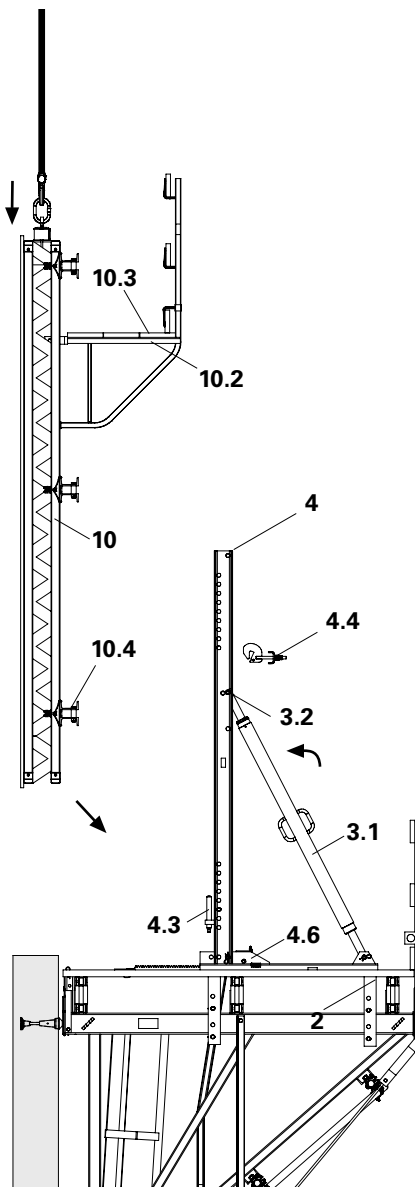
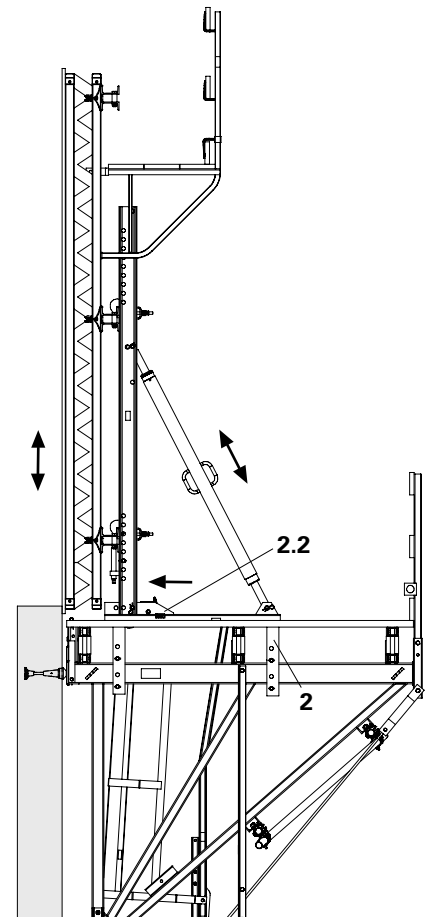

Fig. B2.11
Fig. B2.12
5. Lower formwork (10) with the bottom waler (10.4) onto the Height Adjusting Unit. Lifting gear remains tensioned.
6. Mount Waler Fixation (4.4) to the walers. (Fig. B2.11)
7. Move Carriage (2) with formwork forwards to the wall. Secure Carriage with wedge (2.2).
8. Align formwork. (Fig. B2.12)